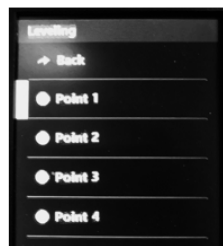
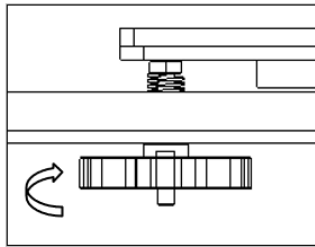

Fig 2
Fig 3
- Step 3. Do "Prepare>> Bed leveling>> Point 1" on control panel(Fig 2), the nozzle will go to the corners of the bed, loosen the hand nuts under the hotbed (Fig 3) and let the nozzle almost touch the hotbed (Fig 4). Continue to do "Point 2/3/4" until all of the 4 corners has been leveled.
- Step 2. Use a diagonal pliers to cut off the head of filament (Fig 2), and then press the handle of the extruder#1 and insert filament, push the filament until you can see the filament in the PTFE guide (Fig 3). Rotate the gear of extruder #1 (Fig 4), watch the filament until it entered bottom of the hot end.
- Step 2. Click "Print" on the control panel and choose "Test gcode\xyz_cube.gcode" (Fig 2), click the knob to start printing.
- Step 3. Wait until the hotend and hotbed is reached to the setting temperature (Fig 3), the nozzle will home to the origin position and then move to above of the printing platform and extrude the filament, use a tweezers to remove the outflow filament (Fig 4).